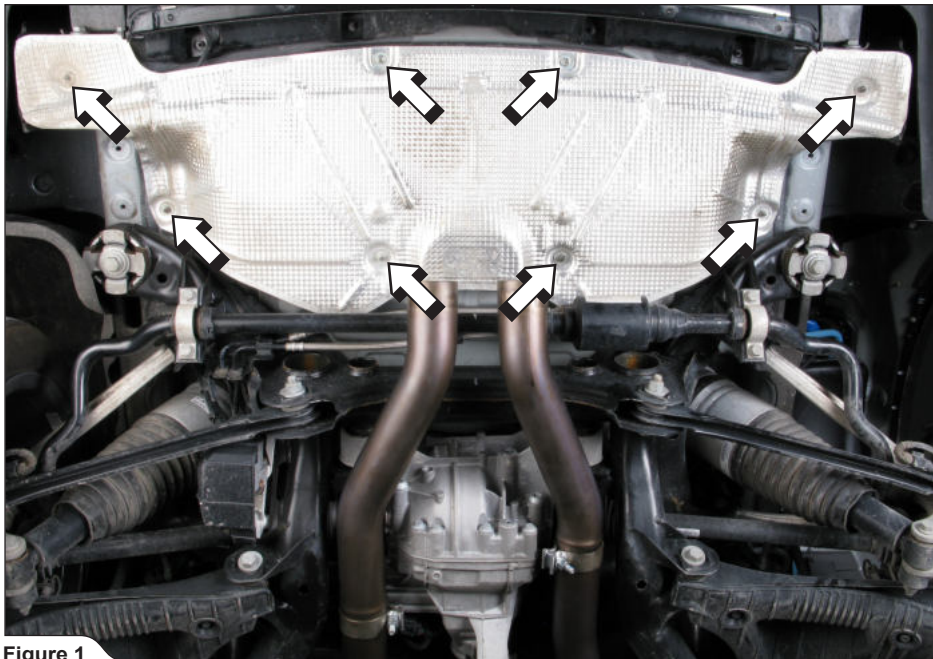

Figure 1
3. Unscrew the marked nuts and carefully remove the heat shield off the vehicle (**Figure 1**).